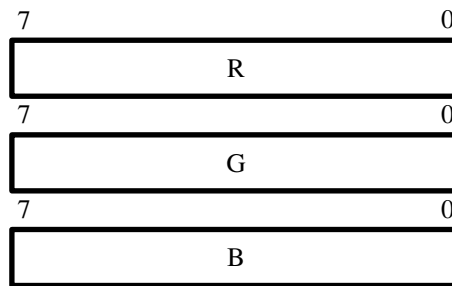

Figure 21. Bayer Pattern RGB Color Space.
- Bayer Pattern — This is a special case of the RGB color space where each pixel has a value for only one of the three colors. The pattern of the colors in the frame is shown in 20. Figure 21 shows to format of the bayer pattern data. This mode is defined as 8 bits per color and one color plane.